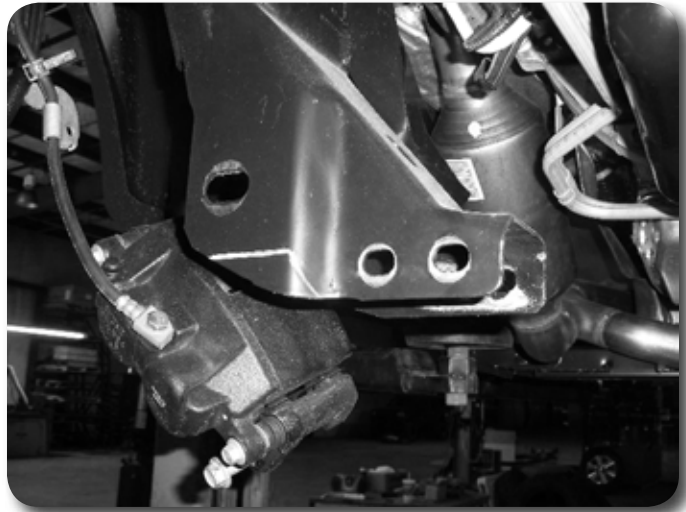

Figure 21
32. The passenger's side control arm pocket must also be trimmed. Measure down 1-3/4" and make a horizontal cut line. The cut will stop where the vertical offset begins, taper the cut as shown. Figure 21